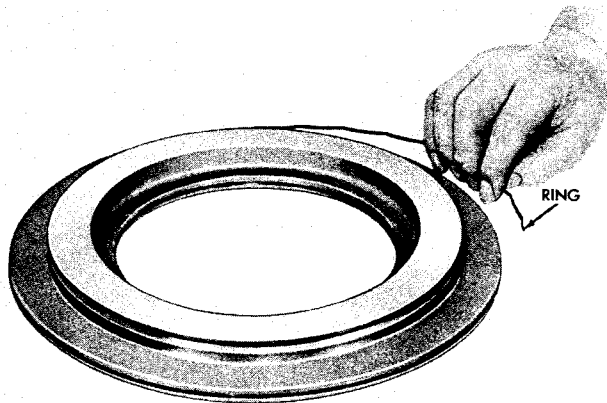

Fig XIII-4. Removing or installing expander ring from piston
(2) Pry out one rail-type seal ring. Refer to figure XIII-3. Remove the other three rail-type seal rings. Remove the expander ring. Refer to figure XIII-4.
(2) Install the expander ring. Refer to figure XIII-4. Install four seal rings, one at a time. Refer to figure XIII-3. Space the rings so that the openings on the rings will be staggered approximately two inches apart.